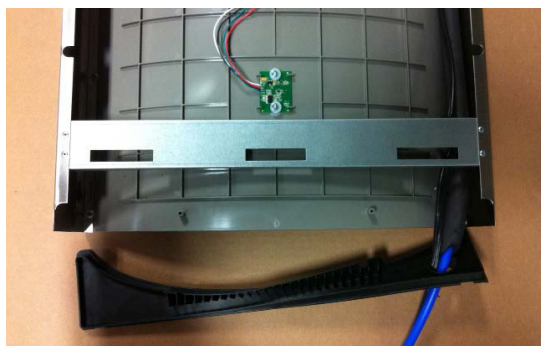

Fig 10
- 5) **Feed power cord & 3/8" water line** through hole in tower/basin gasket (See Fig 10).